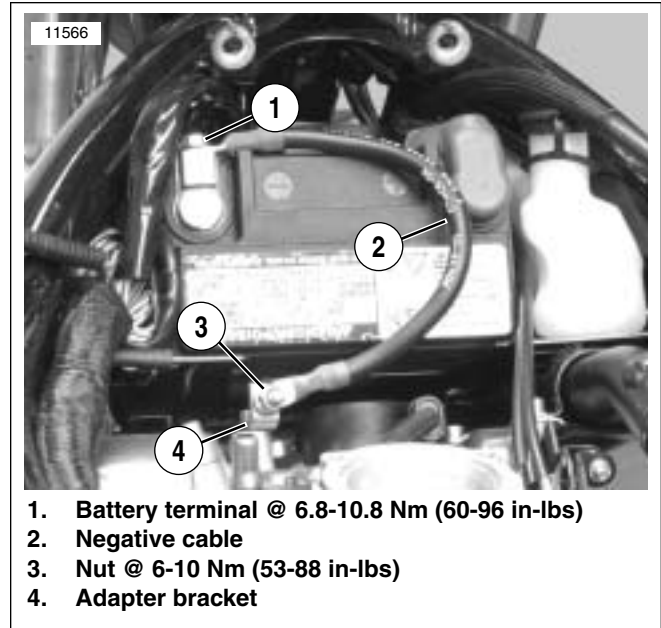

Figure 8-23. Negative Cable (typical)
3. See Figure 8-23. Remove battery negative terminal (1) fastener.
4. Remove nut (3) securing negative cable (2) to stud on adapter bracket (4) and negative battery cable.